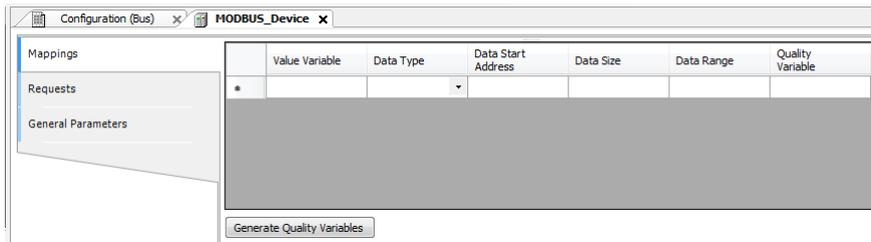

Figure 72: MODBUS Data Mappings Screen
- Add and configure the MODBUS mappings on Mappings tab as Figure 72, specifying the variable name, data type, and the data initial address, the data size and range are filled automatically.